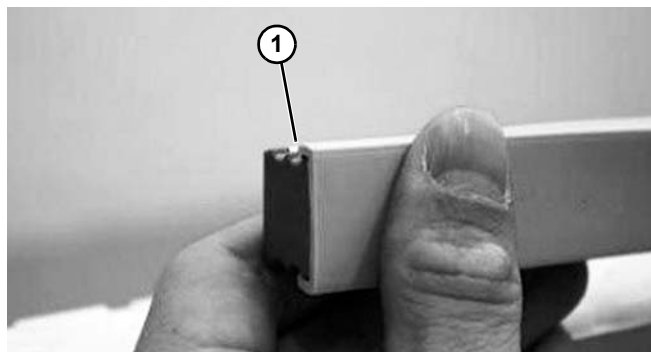

Figure 111
2. Make sure that all cover joints (**Figure 111, item 1**) are smooth, so that products do not get caught or damaged. Covers are not required on guide rail joints.